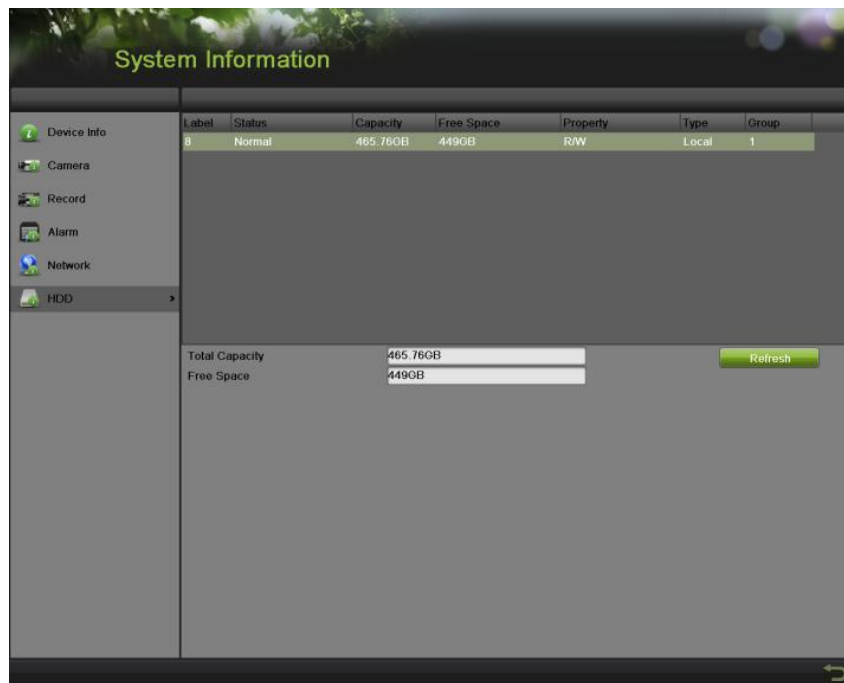

Figure 20 HDD Information Menu
6. Select the HDD tab to enter the HDD Information menu to view the HDD status, free space, capacity, etc, as shown in Figure 20. You can click the refresh button to renew the information displayed.